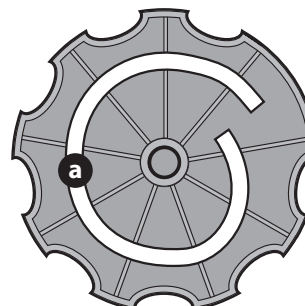

Fig. 14
9. Then align the spiral (a) on the inside of the recliner knob with the recliner pin. Make sure the hub on the back of the recliner sits properly into the large holes of the side plate (Fig. 14).